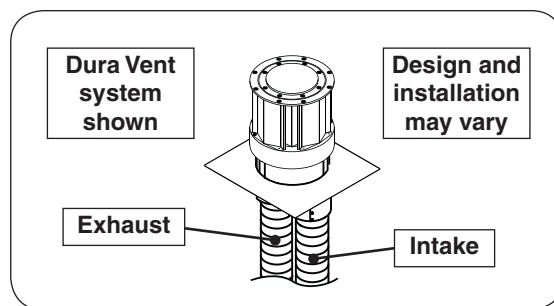

Fig. 24-3 Install vent termination system
4. Install the vent termination system to the flex liners (see Fig 24-3). Carefully follow all manufacturer instructions included with the venting products, and use the pipe clamps (supplied with insert) to ensure a secure install.